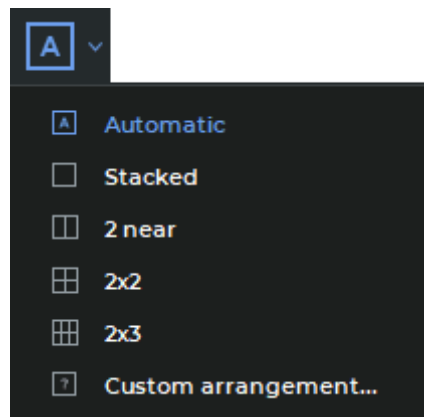

Figure 2.11: Series arrangement menu
1. Click the arrow on the right-hand side of the **Series arrangement** button on the toolbar and select the arrangement mode from the drop-down menu (Fig. 2.11).